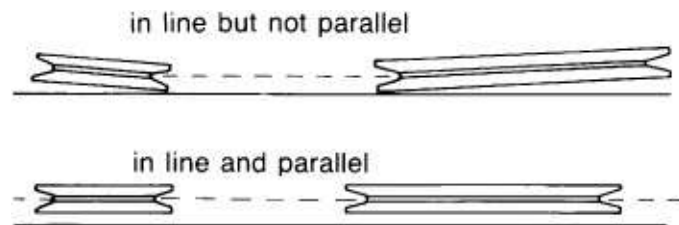

FIGURE 9-47. Pulley alignment.
3. The driving pulleys on an engine stub shaft must be in alignment with the driven pulleys on the auxiliary equipment. A straight rod or dowel held in the groove of one pulley should drop cleanly into the groove on the other pulley (see Figure 9-47 for examples of misalignment).